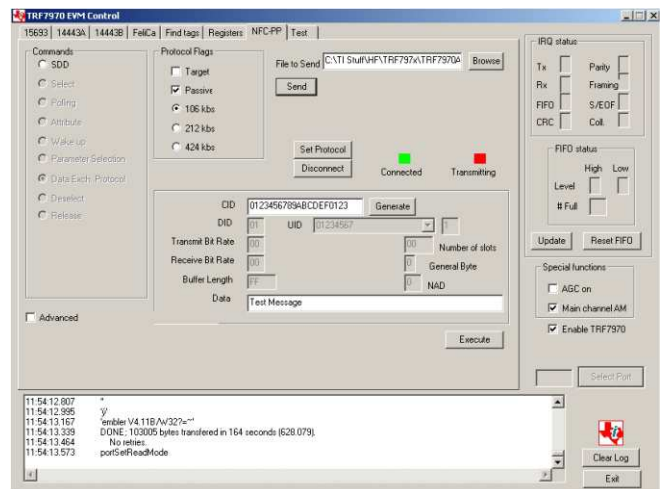

**Figure 36. NFC File Transfer, Save File on Target**
4. Click Open (see Figure 36).